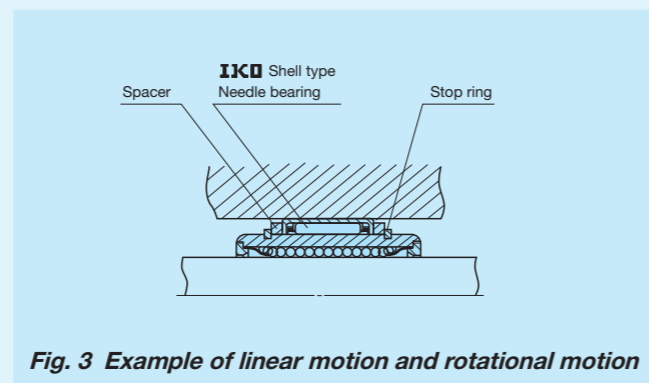

Fig. 3 Example of linear motion and rotational motion
Note (1) For hardness factor, refer to Fig. 3 in page III-5.
LM series units support only linear motion but do not support rotational motion. When performing rotational motion and linear motion of short stroke length, IKO Stroke Rotary Bushing is recommended to be used. And, for the usage requiring rotational motion and linear motion of long stroke length, it is recommended to use in combination with IKO needle bearing as shown in Fig. 3.